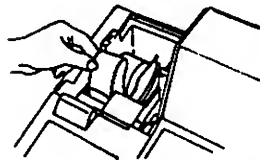

Fig. 4
4. Insert the paper end into receipt inlet as holding the [RF] key pushed down (Fig. 4).